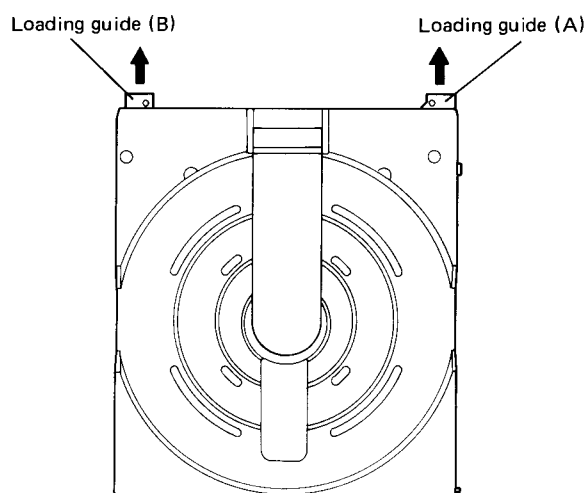

Fig. 9
5. With the loading guides (A) & (B) fully extended, mount the disc tray and loading guides on the chassis. (Fig. 9)